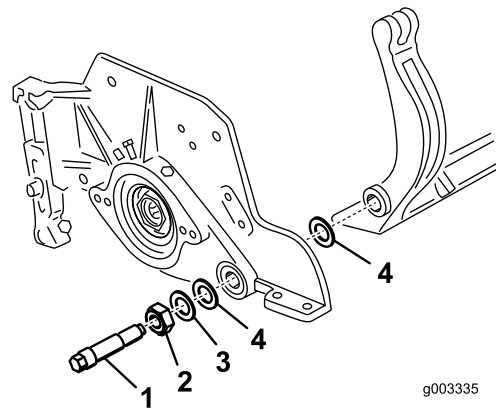

Figure 30
Account for 2 nylon washers and 1 steel washer on each end of the bedbar (Figure 30).
3. Position a nylon washer on each side of the side-plate boss. Place a steel washer outside each of the nylon washers (Figure 30).